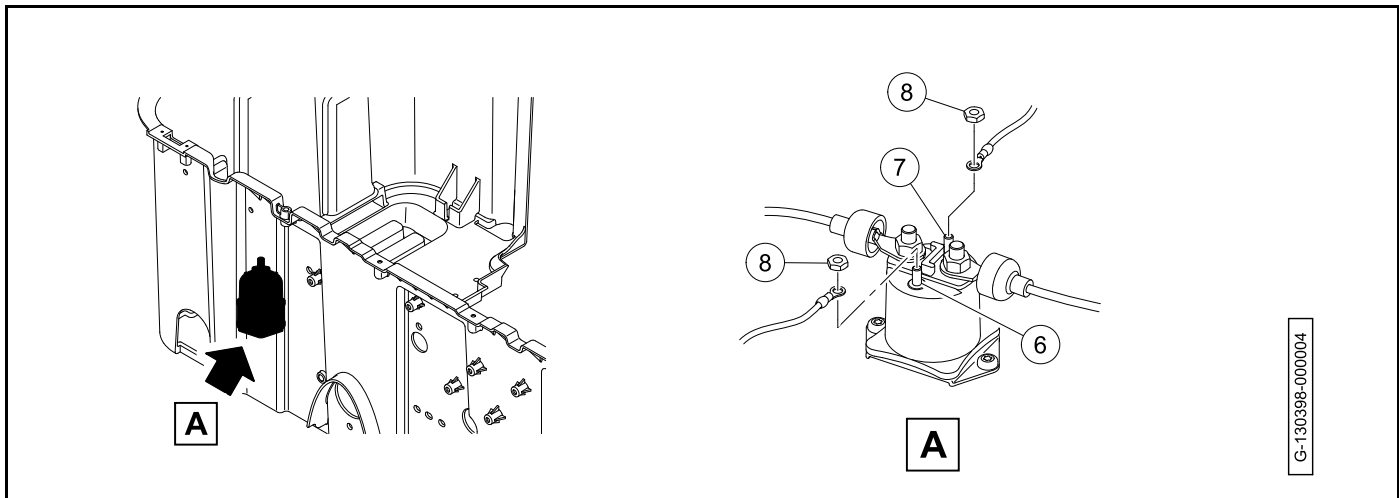

Figure 20-21 Solenoid Small Posts
4. Connect the red wire to the large post (4) on the solenoid.
5. Install the nuts (5). Tighten the nuts to 59 lb·in (6.7 N·m).
6. Connect the blue wire to the small post (6) on the solenoid (**Figure 20-21, Page 20-20**).